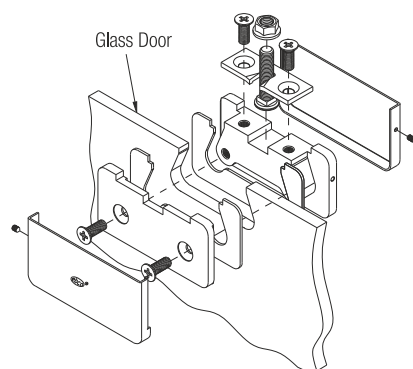

Fig.2
2. Assemble the fittings as shown in diagram (Refer Fig. 2 & 3).